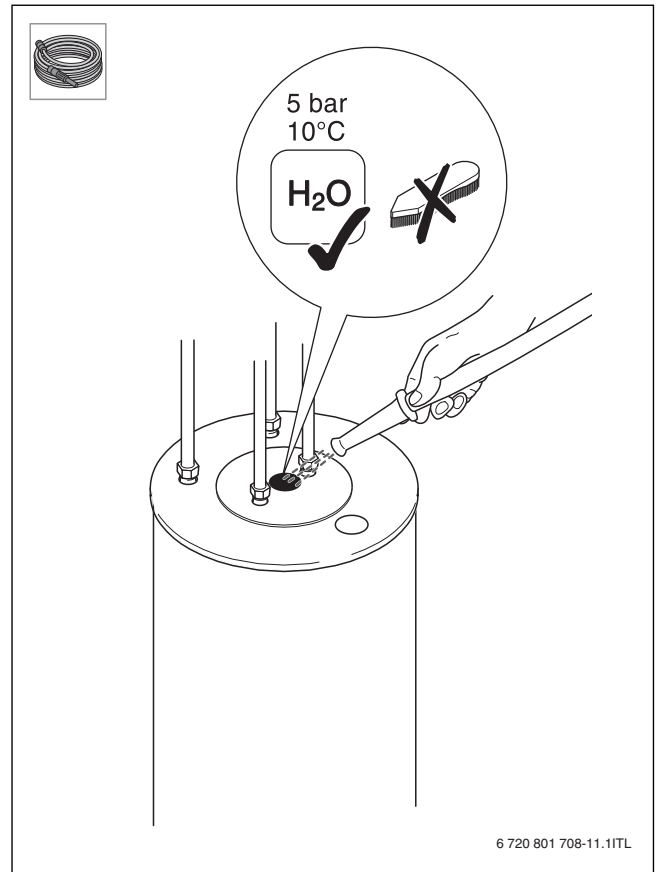

Fig. 16
- ▶ Rincer le ballon (→ fig. 16, page 69).